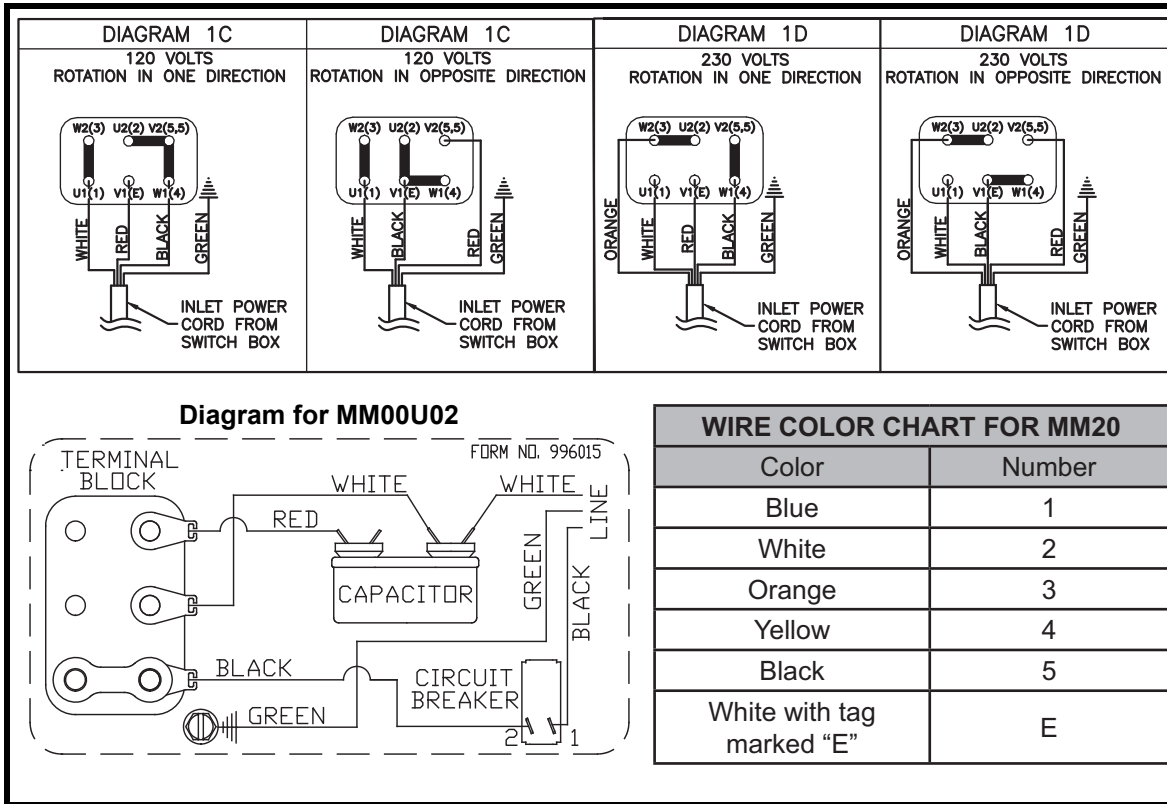

Figure 6. Single Phase Wiring Diagrams
- Wire vibrator according to appropriate wiring diagram inside terminal box or see Figure 6 or 7. **Use closed loop wire connectors only.**